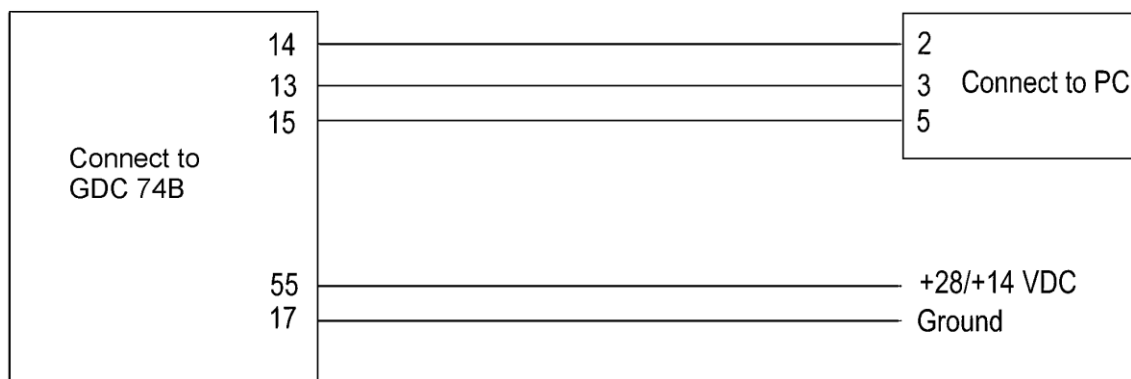

Figure 5-43. GDC 74X PC Interface Cable
11. After the unit type has been determined, the 'Set altitude to 0 ft' screen (Figure 5-43) appears.